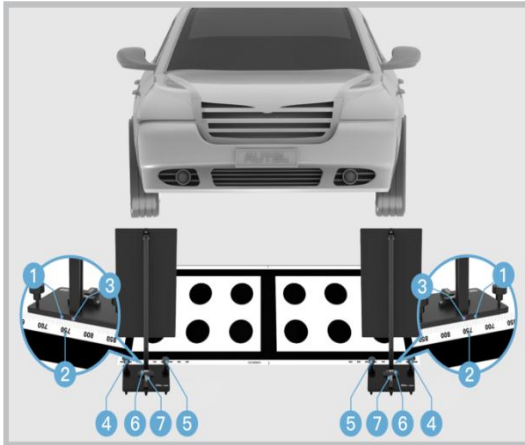

Figure 3-46 Position and Adjust the Calibration Tools
4. Position the two assembled calibration tools as displayed in Figure 3-46. Ensure the side (①) with marked line on the base of the target board holder aligns with the edge of the ruler (②) on the pattern.
5. Move the target board holder left or right to aim the marked line (③) at 775 on the ruler (②).
6. Rotate the bolts (④) and (⑤) so that the bubbles in the bubble levels (⑥) and (⑦) are centered.